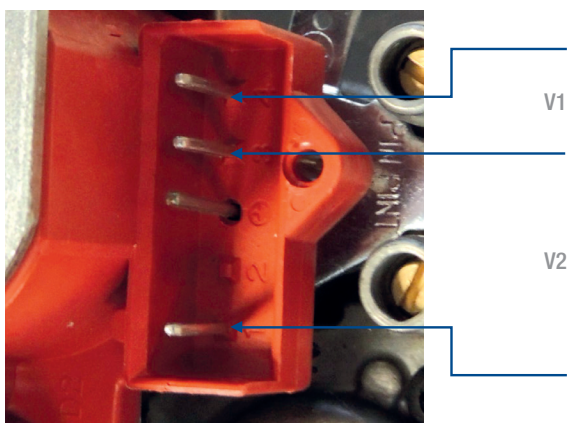

Figure 3 - automatic shut-off valves
- Automatic shut-off valves _____ Male contact 3003 Molex compatible, suitable for female Molex series 3001 or equivalent _____ Fig. 3